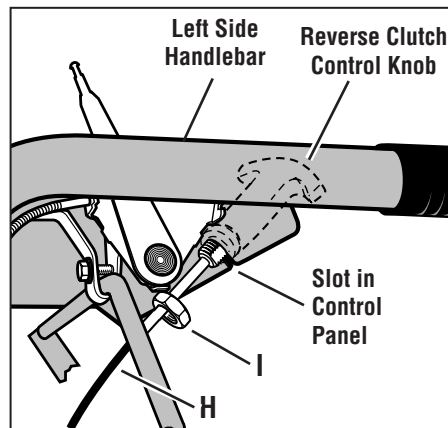

Figure 2-6: Attach reverse clutch control assembly to slotted hole in handlebar panel.
1. Carefully unwrap the reverse clutch control cable (H, Figure 2-6) from its shipping position and route it up along the inside edge of the left side handlebar. A knob and large hex nut (I) is installed on the cable.
2. Insert the cable into the slot in the control panel and fit the threaded assembly into the hole in the slot (see Figure 2-6). Be sure that the flat side of the threaded assembly is aligned with the flat side of the hole. Slide the hex nut (I) up the cable and tighten it securely.